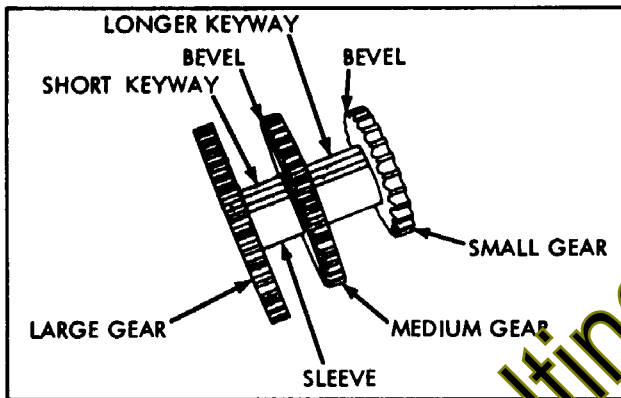

Figure 2-10
- The cluster gear (Fig. 2-10) can be disassembled. All gears are replaceable if damaged or worn. Preferably use a press to drive the gears squarely.
- The small and middle gear bevel faces down, there is no beveled edge on large gear. Shorter section between middle and large gear. (Fig. 2-10).
- Key edge ends must align with shaft ends. (Fig. 2-10).